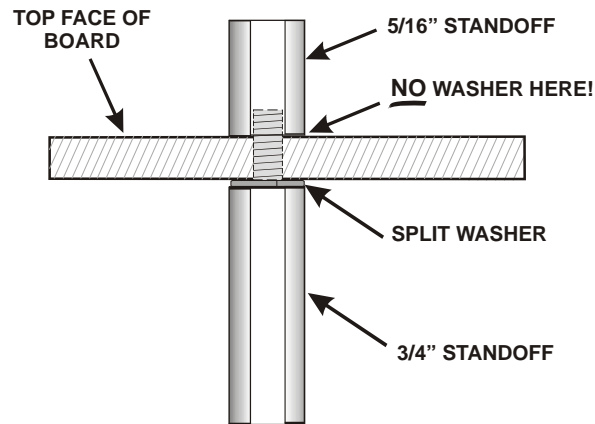

Figure 20. Installing Standoffs on Circuit Board.
- Install two pairs of standoffs in the holes at the edges of the board as shown in Figure 20. The front panel / top cover will attach to the short standoff. One pair of standoffs installs near J8 and K2 (on the bottom face of the board) and the other pair installs in the hole near P1 and J6.